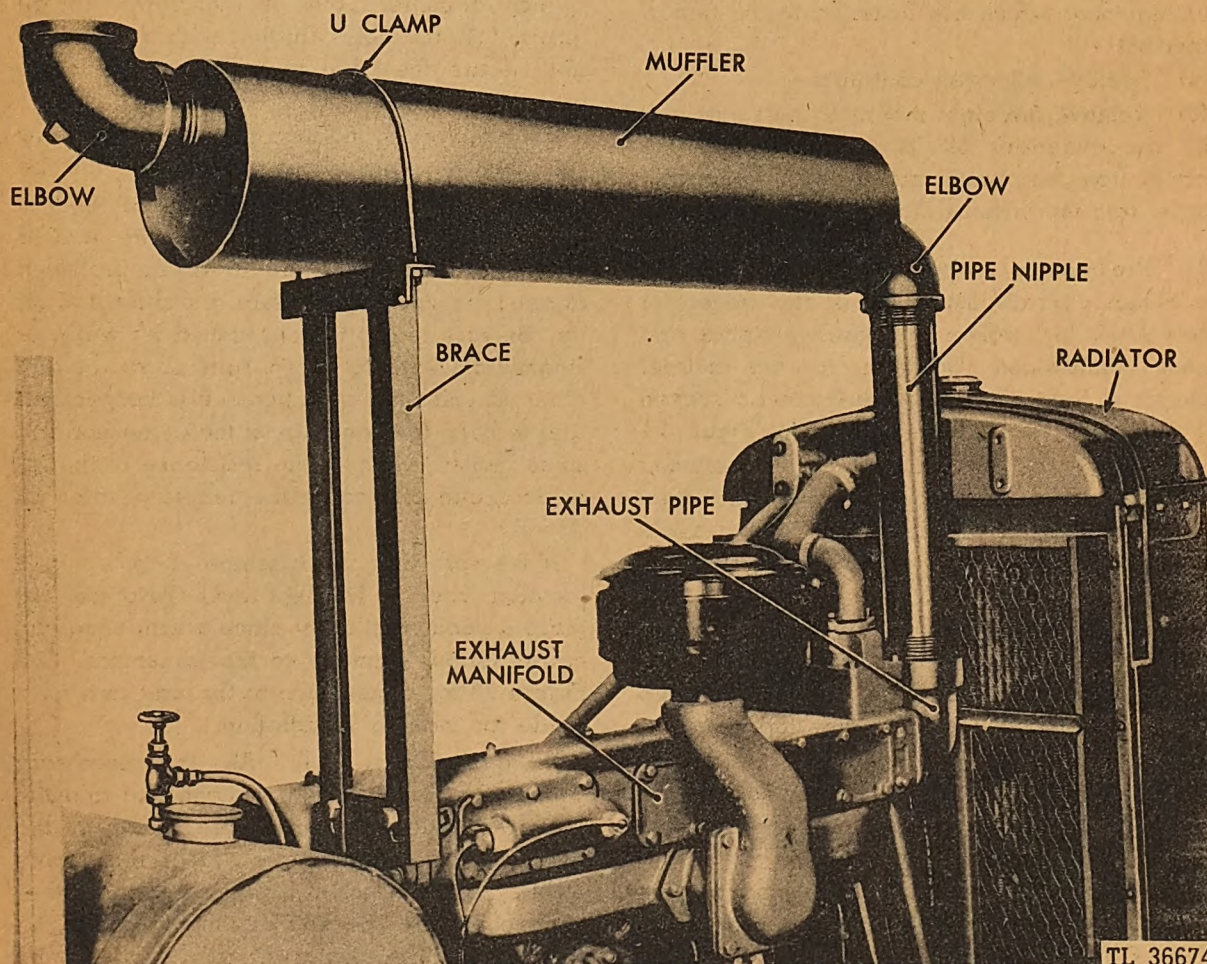

Fig. 22. Muffler Assembly
**23. Preparing Engine for Operation.** (1) Install the muffler on the unit.
a. First, place the pipe nipple into the exhaust outlet elbow. (See Figure 22.)